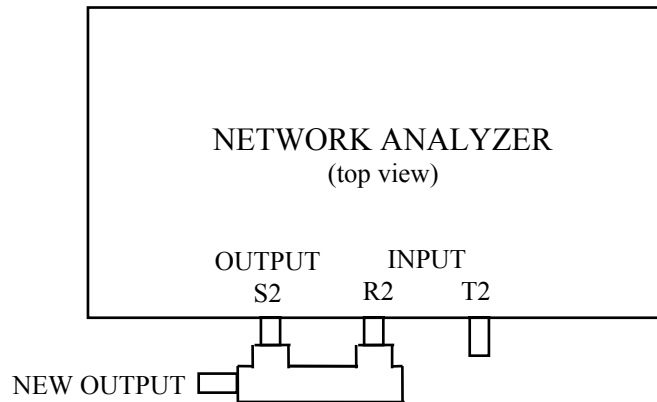

Figure 1. Proper network analyzer configuration for frequency response measurement.
1. Before turning on the network analyzer, connect the OUTPUT port (either S1 or S2) to the corresponding INPUT port (R1 or R2) with the two Type N "T" connectors and the Type N barrel connector as shown in Figure 1 below.